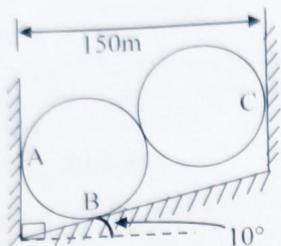

Fig 2.108
- 7) Two identical cylinders dia. 100 mm weight 200N are placed as shown in fig 2.108. All contacts are smooth. Find out reactions at A, B and C.